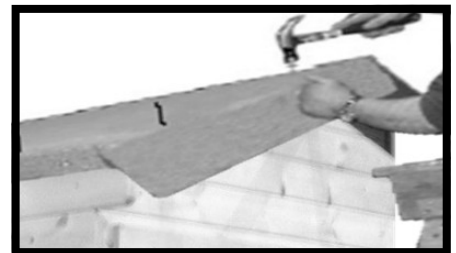

Fig J2
5. An overhang of approximately 50mm should be allowed at the front and the back (all felt strips) and the length of the eaves edgings at the side (Fig J2 & J3).